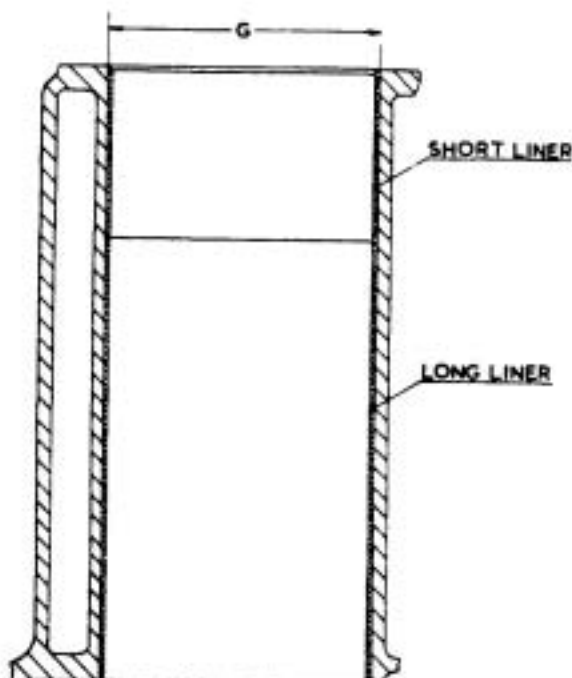

FIG.3. SECTION - CYLINDER - TWIN LINERS IN POSITION (3.500" DIA. BORE ENGINE).
- (vi) Again set up the crankcase on the boring machine with the upper end of the 3.625" (92.07 m/m) dia. counterbore CONCENTRIC with the boring cutter and bore out the cylinder in stages, the whole of its length, (See G Fig.3), to a diameter that will allow the correct interference fit between the cylinder and the pair of matched liners. The finish of the bore must be a MACHINED AND NOT A HONED FINISH, prior to pressing in the liners.